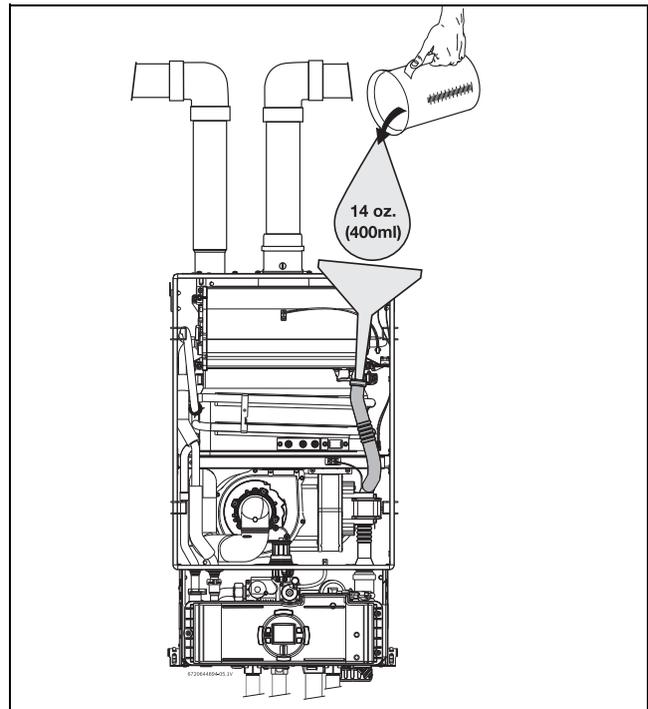

Fig. 36 Filling the condensate trap after installation
► Fill the condensate trap by pouring approx. 14 oz. (400ml) of water into the top of the drain tube. To avoid damage to the appliance use a funnel in this operation, see fig. 36, page 30.